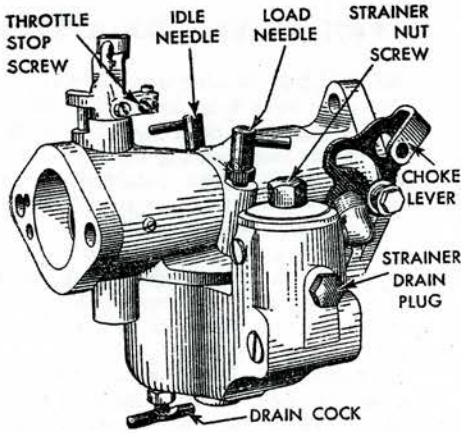

Fig. 17 Carburetor. Models AO, AR, D
**ALL MODELS (Except 50, 60)**—Three adjustments are provided on most carburetors used on John Deere tractors, namely (1) idling speed, (2) idle mixture, (3) main jet or power setting. The carburetor used on Series L tractors has a fixed main jet and, therefore, is not adjustable. See Figs. 17, 18, 19, 20.